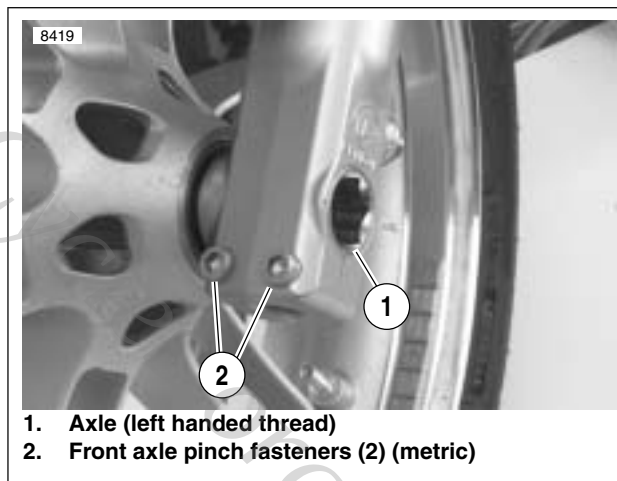

Figure 2-19. Front Wheel Mounting
- b. See Figure 2-19. With pinch fasteners (metric) loose, insert threaded end of axle (1) through left side fork, wheel hub and thread into right fork.
- d. Tighten axle (1) (metric) to 39-41 ft-lbs (53-56 Nm).
4. See Figure 2-19. Tighten the front axle pinch fasteners (2) to 20-22 ft-lbs (27-30 Nm).